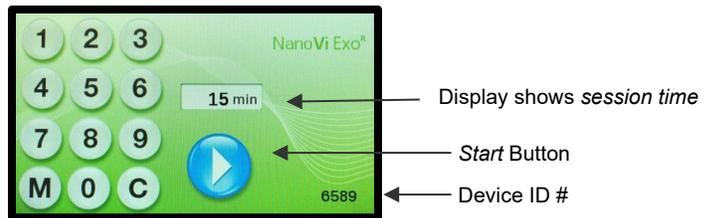
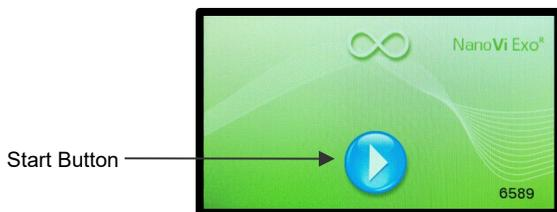

Fig. 7.2: “Start”-Screen
Fig. 8.4: "Start-Infinity"-Screen in *Infinity-Mode*
Upon completion of the self-test, the “Start”-Screen (Fig. 7.2) appears allowing you to enter the number of minutes for the session time. Enter the desired session time by touching the appropriate numbers on the touch screen. The minutes are shown in the session time display in the center of the screen.
*Stop* Button terminates a session at any time. Stopping the session takes you back to the “Start”-Screen (Fig. 7.2).
Insert Owner Card when the monitor shows the self-test is finished in the Initial "Splash"-Screen and the monitor has changed to one of the three "Start" Screens for *Standard-Mode* (Fig. 7.2), for *Infinity-Mode* (Fig. 8.4) or the "User Card Request"-Screens (Fig. 8.7) for one of the two *User-Card-Modes*.
Insert Owner Card when the monitor shows the self-test is finished in the "Initial Splash Screen" and the monitor has changed to one of the three "Start Screens" for Standard Mode (Fig. 7.2), for Infinity Mode (Fig. 8.4) or the "User card Request Screen" (Fig. 8.7) for the two User Card Modes (Fig. 8.7, Fig. 8.11).
When all the mode selector buttons are blank, press the "Page up" button to switch to the "Start"-Screen in *Standard Mode* (Fig. 7.2). Take out the Owner Card.
To operate in *Standard-Mode* make sure that all the mode selector buttons are blank and press the "Page up" button to switch to the "Start"-Screen in *Standard-Mode* (Fig. 7.2). Take the Owner Card out.
When the *Infinity-Mode* Button is orange, press the "Page up" button to switch to the "Start"-Screen in *Infinity-Mode* (Fig. 8.4). Take the Owner Card out.
After programming the last User Card press the "Page up" button until one of the three Start Screens: for *Standard-Mode* (Fig. 7.2), for *Infinity-Mode* (Fig. 8.4) or the "User Card Request"-Screen (Fig. 8.7) for the *User Card Modes*.